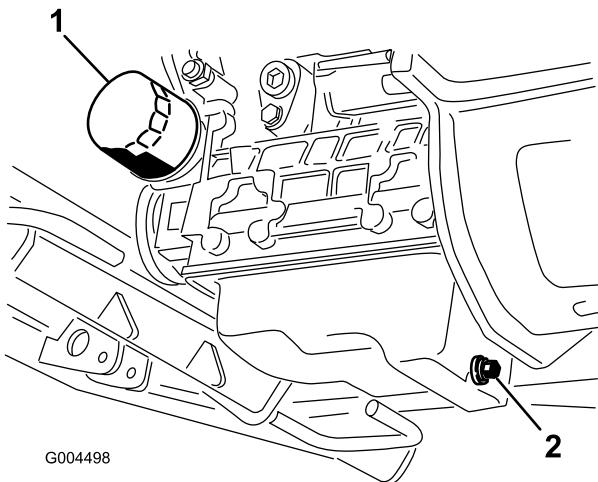

Figure 66
3. Set a drain pan under the oil pan and in line with the drain plug (Figure 66).
- 6. Remove and replace the oil filter (Figure 66).